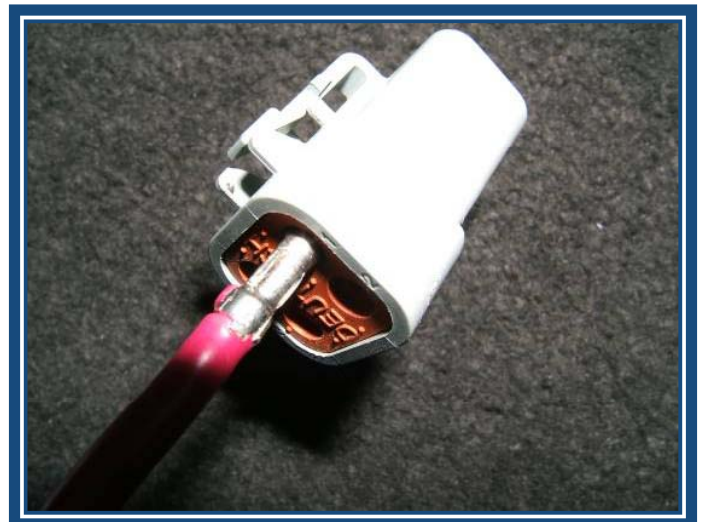

Figure 6
- Insert the blue ignition wire (#14) (Ignition Pin #4) from the extender module (P) into the #4 position (V4) on the connector. (See Figure 6)